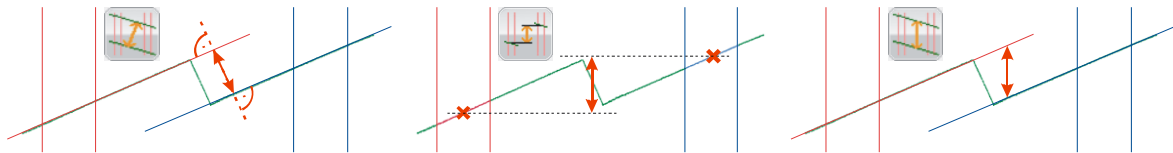
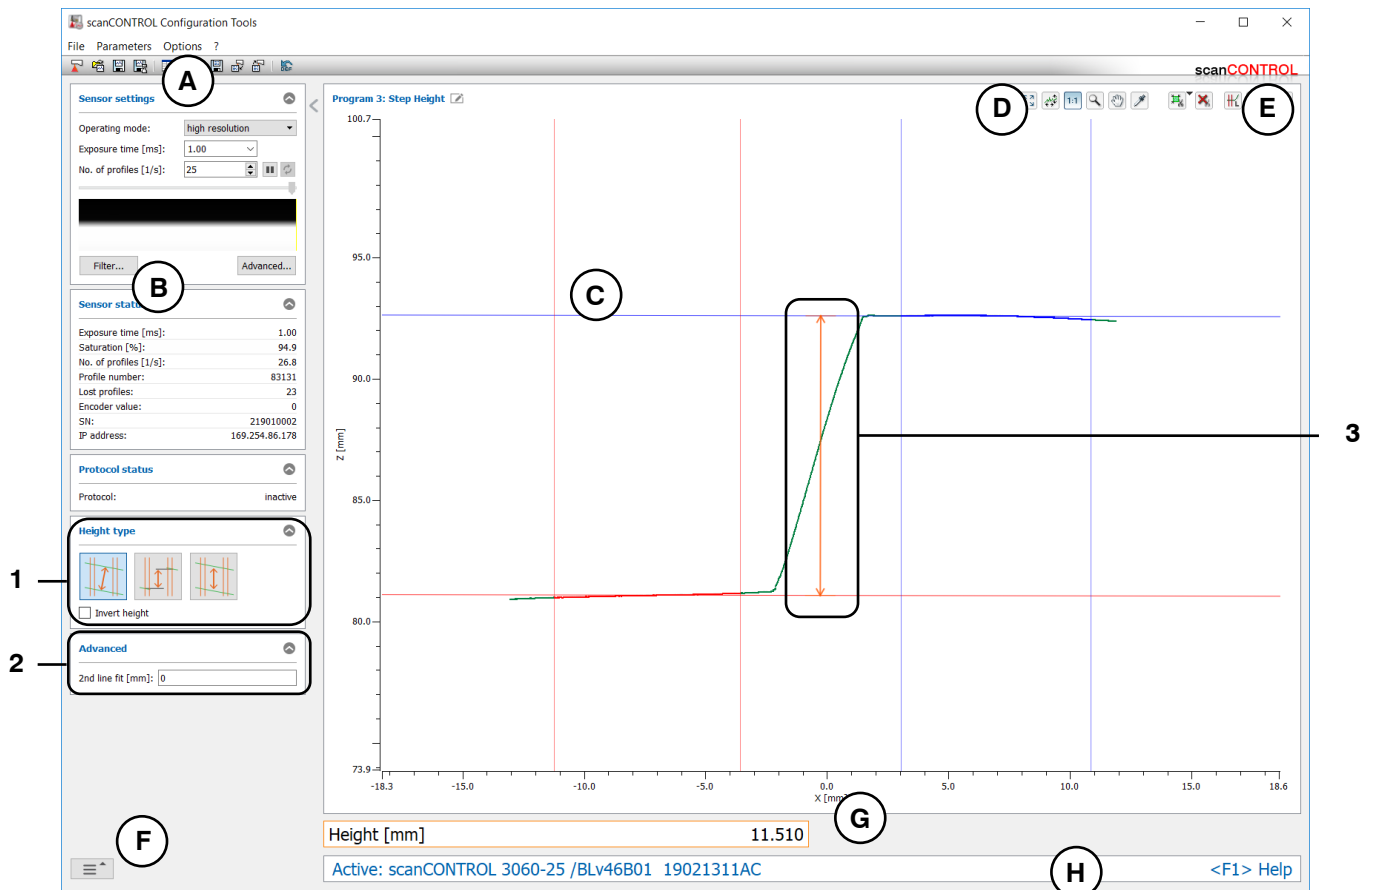

Fig. 4.16: Algorithms for height calculation
Fig. 4.17: "Step Height" measuring program
- Define the algorithm for the calculation of the height (see Fig. 4.16, Fig. 4.17 and Chapter 3.13.1):
- If necessary, invert the sign of the height (see Fig. 4.17).
- 1** **Height type:** In this input field, select the algorithm for the calculation of the height (see Fig. 4.16) and invert the sign of the height, if necessary.